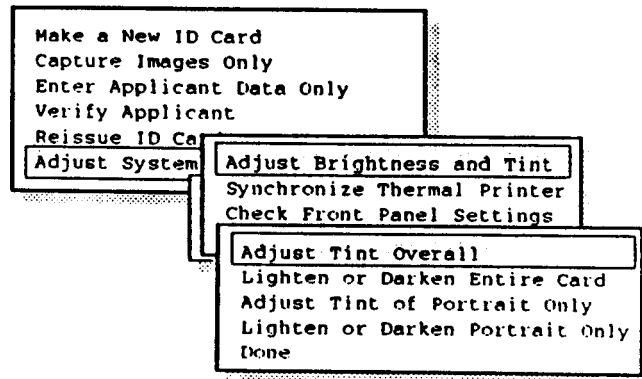

Figure 2-38 Brightness and Tint menu
4. Select **Adjust Brightness and Tint** to display the brightness and tint menu (Figure 2-38):